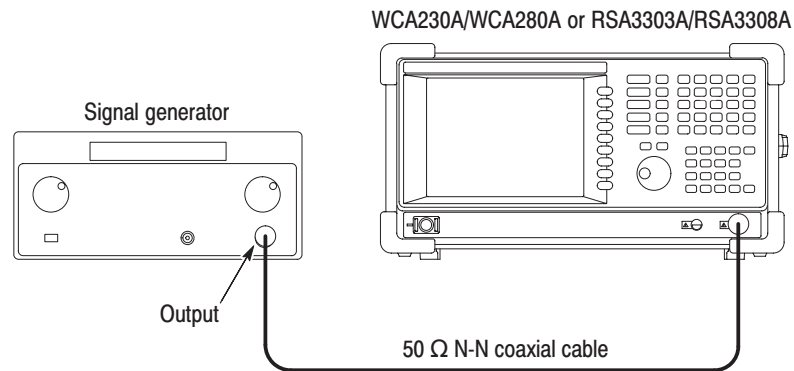

Figure 9: Initial test hookup
b. *Hook up the generator:* Connect the generator output through a 50 Ω N-N coaxial cable to the analyzer **INPUT**. See Figure 9.